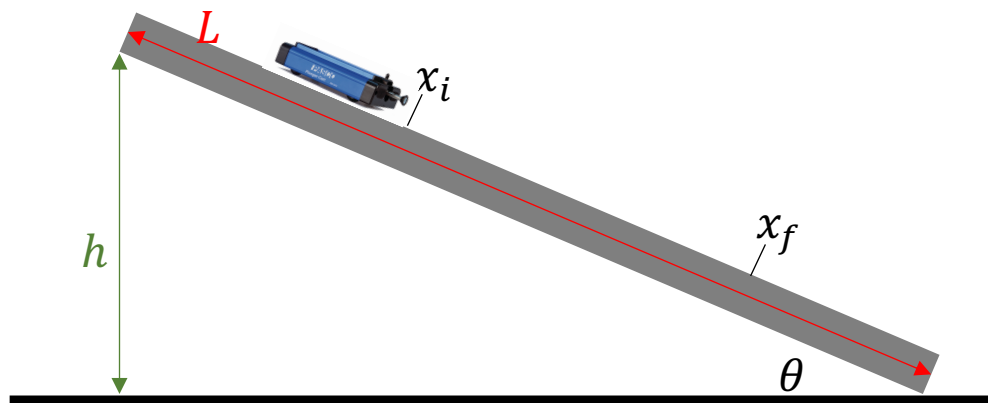

Figure 1: Experimental setup.
1. The setup for the experiment is shown in Figure 1 below. You will need to raise one end of the track by a height h . Measure the height h and the full length of the track, L , and make sure you know the units of your measurements. Record these below with appropriate units.